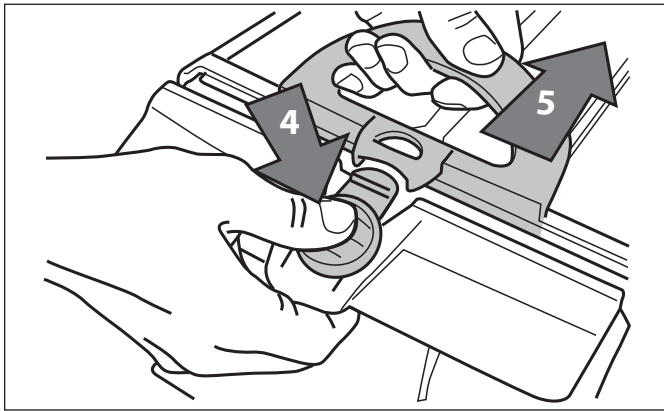

Figure 22. Open Filter Assembly
7. Push the quick release button on the canister assembly (4) and pull open the filter assembly (5). Refer to Figure 22.